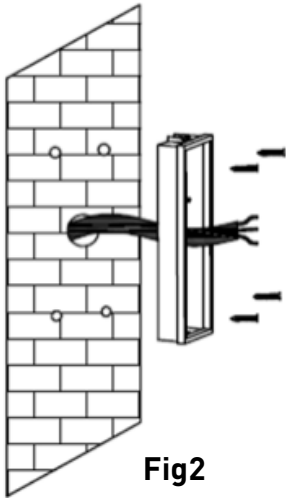

Fig2
- Use the base as a template and drill the fixing holes ensuring not to infringe with any joists, gas or water pipes or electrical cables (see Fig 2)